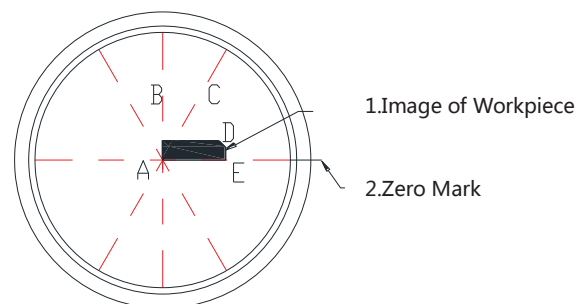

Fig 9 Double coordinate measurement
6.2.2.3 Adjust the direction of the workpiece were measured with the X axis and Z axis parallel, as shown in Figure 9 AE // X, AB // Z.